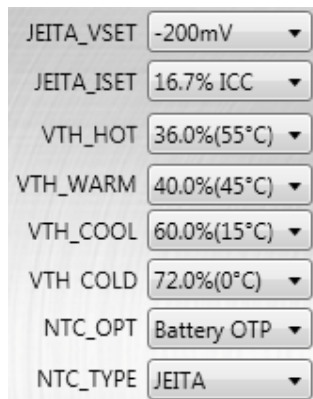

Figure 17: NTC Functions Settings
15. Set the NTC functions according to the selected NTC thermistor and requirements (see Figure 17). If this function is not included during the evaluation, leave the default settings.